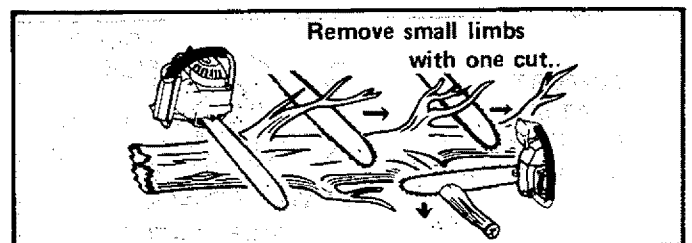

Figure 36
- c. **Start at the base of the felled tree and work towards the top, cutting branches and limbs.** Remove small limbs with one cut. Figure 36.